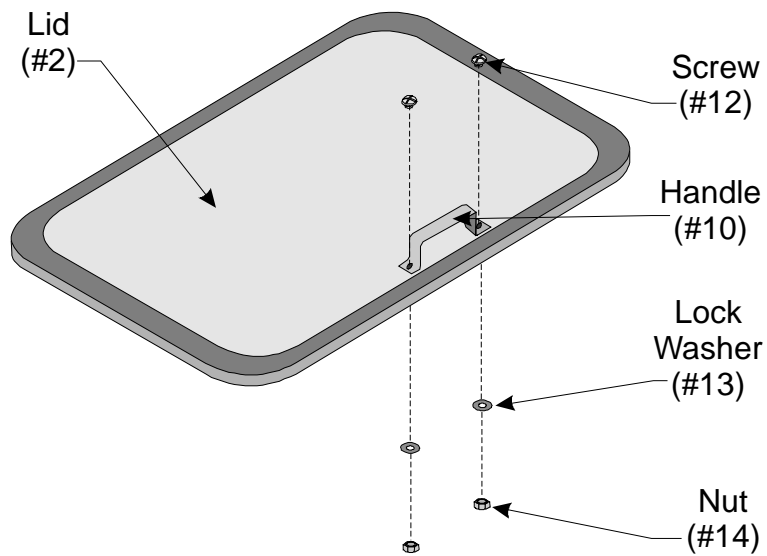

Figure 1 — Attaching Handle to Lid
Step 2: Attach HANDLE to LID (#2) as shown in Figure 1.